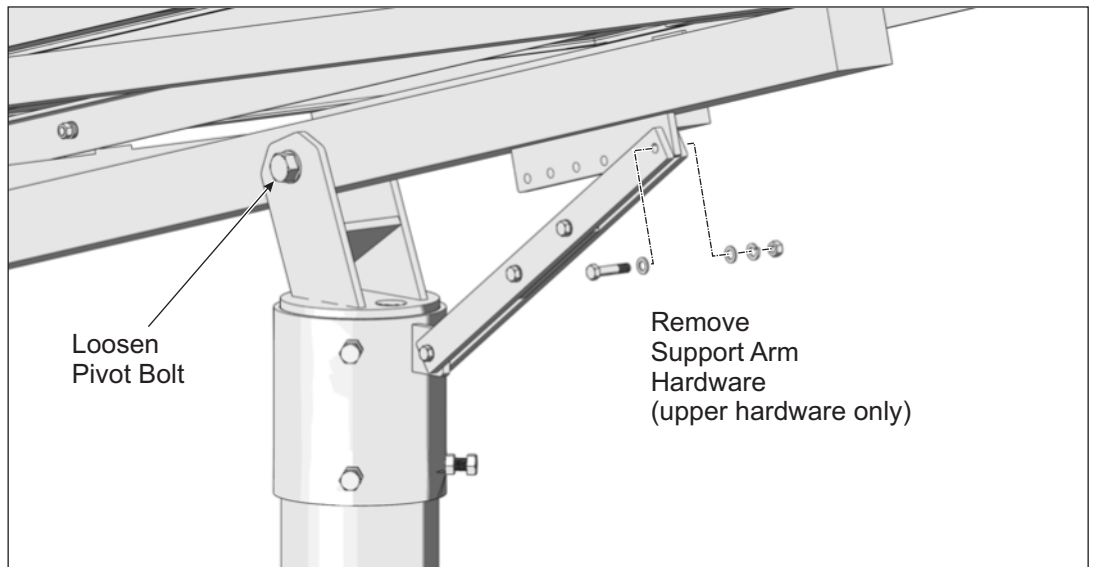

Figure 7-1: Preparing to Adjust the Tilt Angle
- A. While one person holds the south edge of rack, the other loosens the Pivot Bolt and removes the upper 3/8” hardware attaching the Support Bar to the Strongback. (See Figure 7-1)